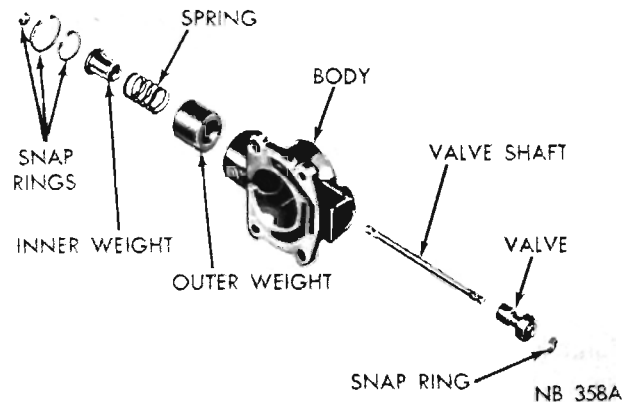

Fig. 34—Governor Assembly
(3) Remove large snap ring from weight end of governor body, lift out governor weight assembly.
(4) Remove snap ring from inside governor weight, remove inner weight and spring from the outer weight. Figure 34 shows a disassembled view of the governor assembly.
(5) Remove snap ring from behind governor body, then slide governor and support assembly off the output shaft. If necessary remove the four bolts and separate governor body from the support.